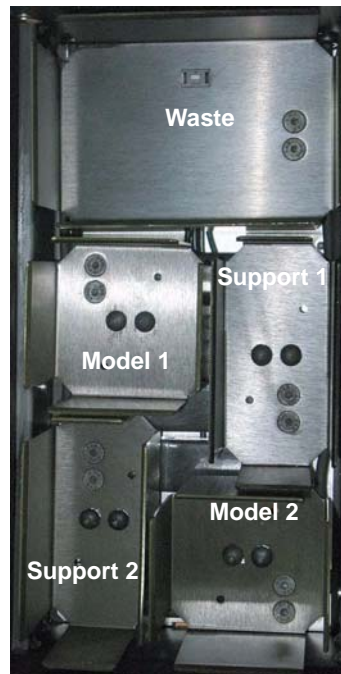

Figure 6-4: Printing-materials drawer
3. Load model and support cartridges into their respective compartments (see figure 6-4).